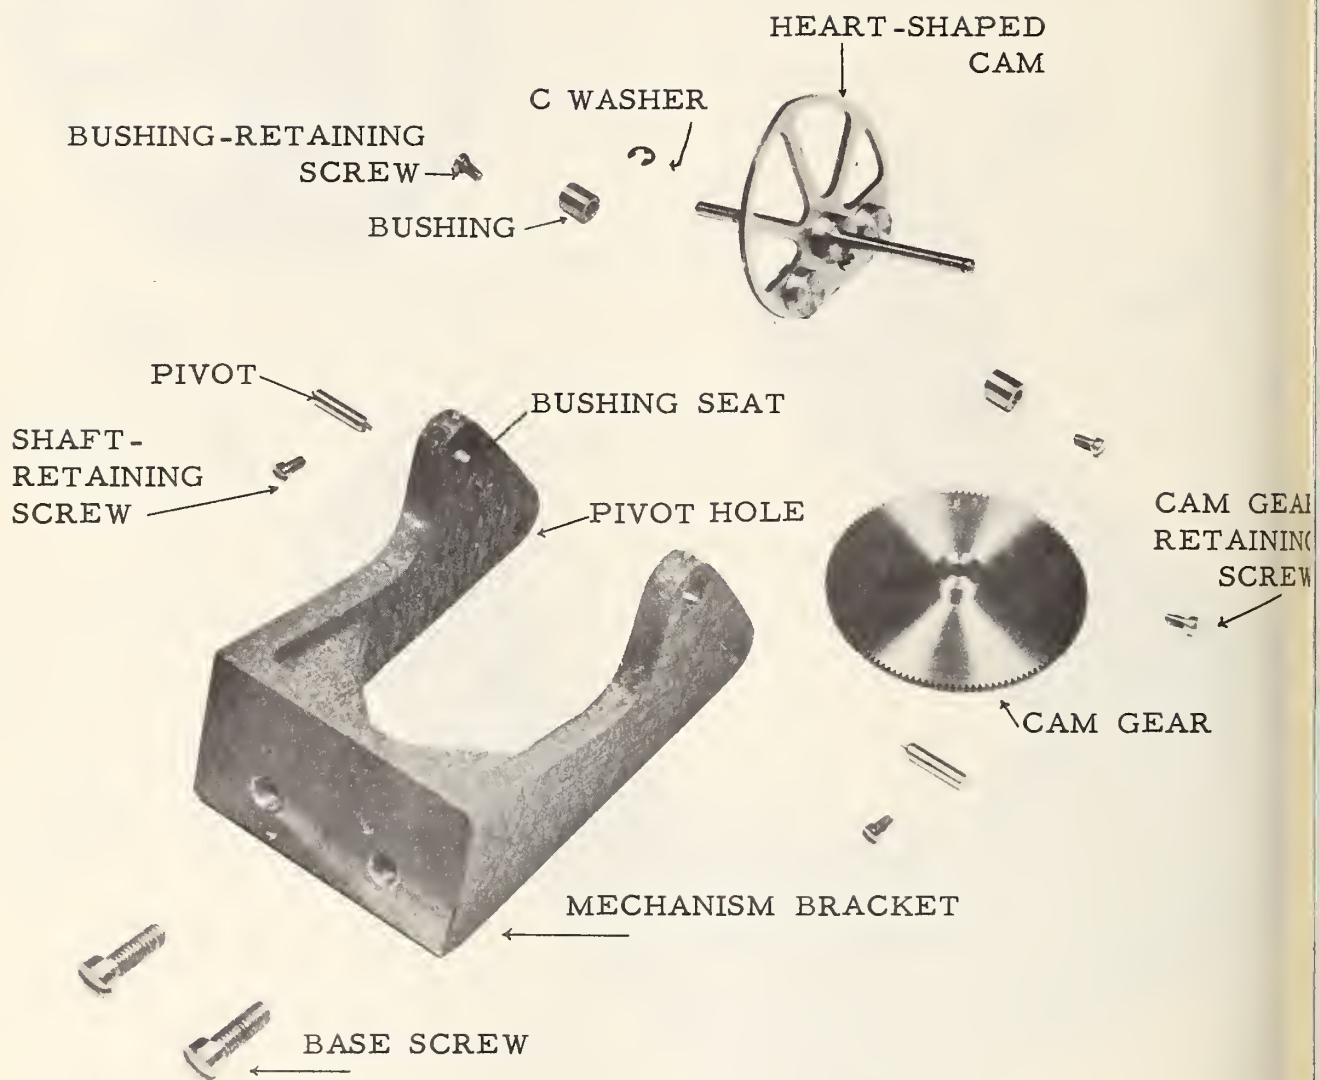

Figure 6.--Type B. Mechanism bracket and cam gear, detail of parts.
- c. Loosen shaft-retaining screws and replace cam shaft. Adjust so that cam gear is in the center of the gear on the float wheel shaft. Provide a slight play in the cam shaft. Tighten shaft-retaining screws on pivots. This is a side-to-side adjustment. On type B instruments (fig. 6) bushings and C washers hold the cam shaft in the mechanism bracket. If shaft-retaining screws are tightened too hard against the bushings, they may cause the cam shaft to bind. Avoid this.